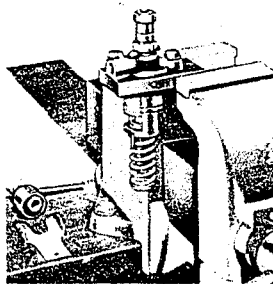
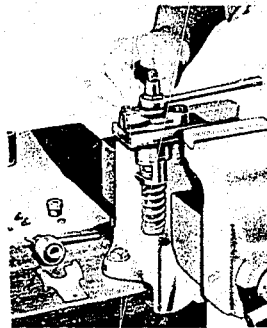

Figure 1
Figure 2
1. Mount the pump in holding plate TSE 76142 and secure with two screws and plain washers (See Figure 1). The plate has a hole drilled to accommodate the dowel pin in the housing flange.
2. Withdraw two bleeder screws (2) and gaskets (3).
the vise and remove delivery nipple nut (11), delivery nipple nut washer (12), delivery valve holder (13) and delivery valve spring (14). Use socket or box type wrench to remove delivery valve holder (See Figure 2).